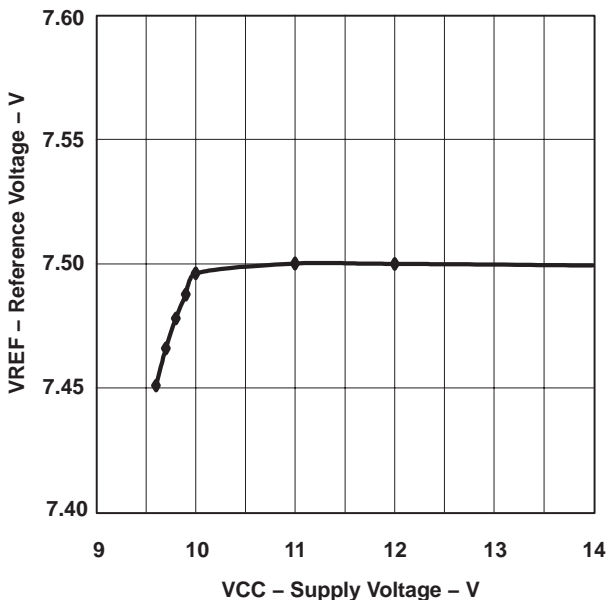

Figure 2
- NOTES: (1) Ensured by design, Not production tested.
(2) Reference variation for $V_{CC} < 10.8\text{ V}$ is shown in Figure 2.
(2) Reference variation for V_{CC} < 10.8 V is shown in Figure 2.